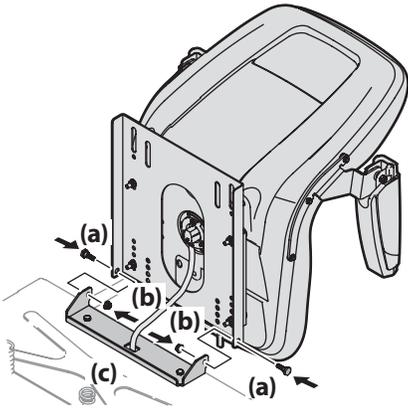

Figure 2-4
- Rotate the seat into position and secure the seat into place with the previously removed shoulder screws and flange lock nuts. Be careful not to crimp or damage the wire harness while installing the seat. See Figure 2-4.